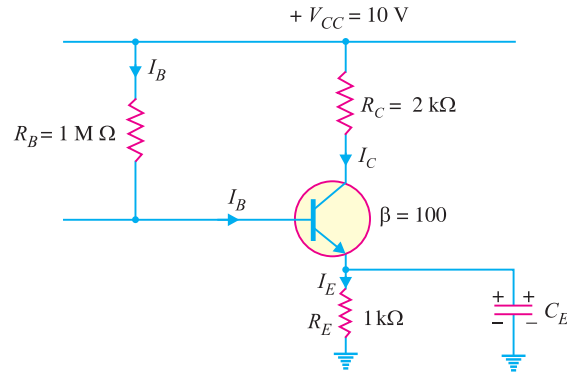

Fig. 9.9
**Example 9.6.** Calculate the values of three currents in the circuit shown in Fig. 9.9.